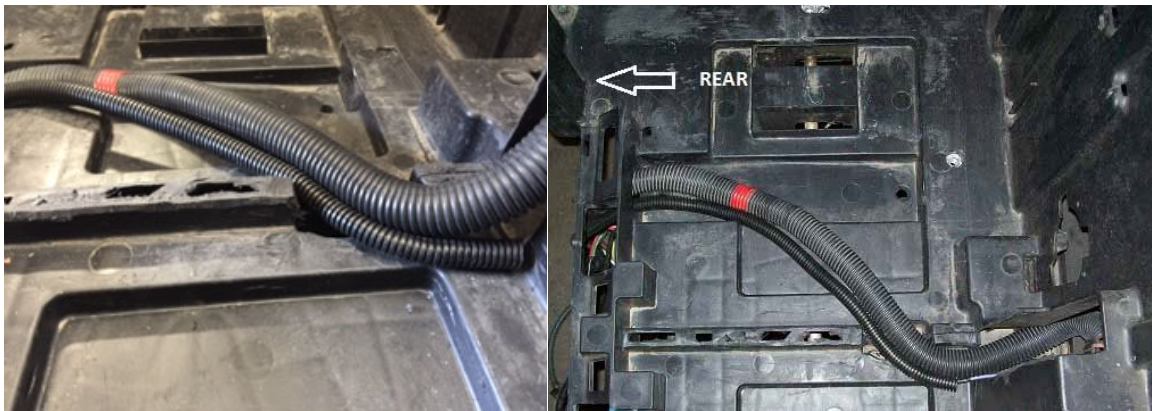

Fig. 10- OEM wiring harness routing
5. Proceed to route the OEM harness through the battery tray/tub as shown then carefully feed the connector/harness through the hole. (Fig. 10)